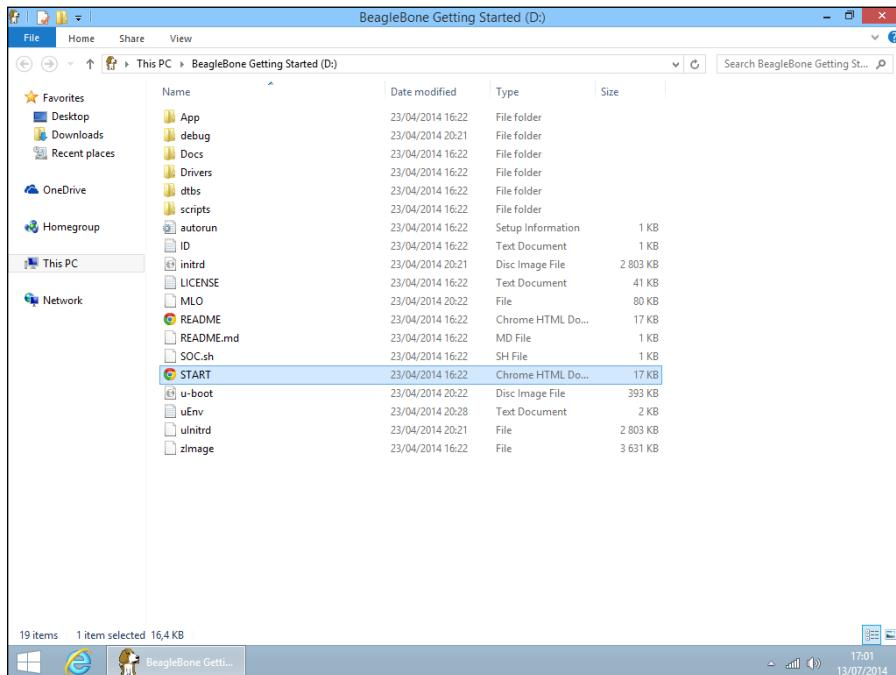

Figure 3-1:
3. Open the file called **START.htm** in your default web browser (see Figure 3-1).